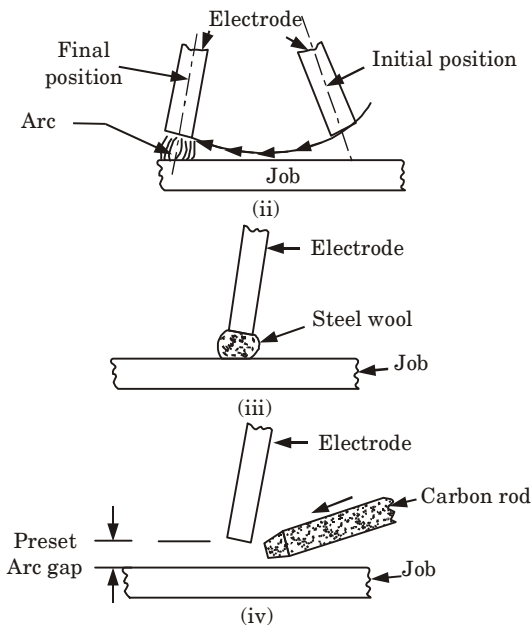

Fig. 1.8.1. Methods of arc initiation.
- i. By momentarily touching the electrode with the job and taking it away as shown in Fig. 1.8.1(i).
- ii. By scratching the electrode with the job. Scratching is initiated a little distance away from the point where the welding is to be started and during scratching the electrode is brought to the proper place of starting the welding as shown in Fig. 1.8.1(ii).
- iii. In this case steel wool is kept pressed between the electrode and the job. When the welding current is switched on, the steel wool provides a conducting path for the arc to establish as shown in Fig. 1.8.1(iii). This method can be used in atomic submerged arc welding sets and automatic MIG welding machines.
- iv. In automatic metal arc welding sets electric arc can also be initiated with the help of a carbon rod. Suitable arc gap is kept between the electrode and the workpiece, current is switched on, then the electrode and job simultaneously are momentarily touched with a carbon rod as shown in Fig. 1.8.1(iv).